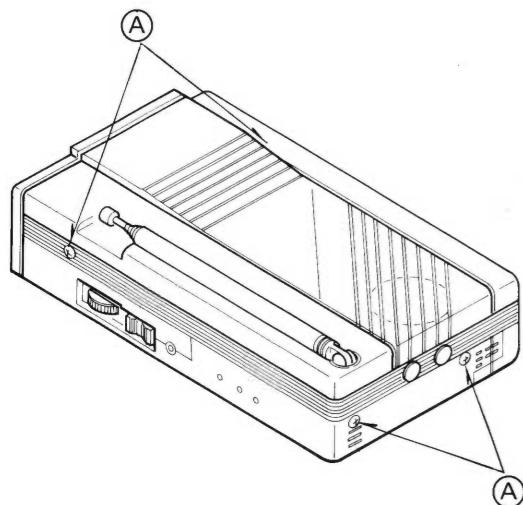

Fig. 1
1. Remove 4 screws A as shown in Fig. 1.